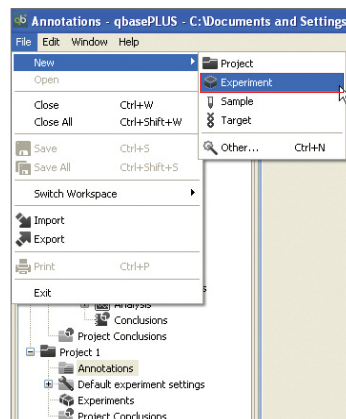

Fig. 7. Creating a new experiment subfolder.
4. Create a new experiment subfolder by selecting **File > New > Experiment** in the main menu (Figure 7).